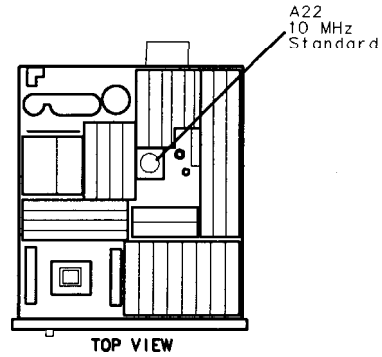

Figure 3-55. Location of 10 MHz Standard Adjustments
14. Use a nonconductive adjustment tool to adjust the 18-turn **FREQ ADJ** capacitor on the A22A2 10 MHz Quartz Crystal Oscillator for a Frequency Counter indication of 0.00 Hz. Refer to Figure 3-55 for the location of the A22A2 10 MHz Quartz Crystal Oscillator.